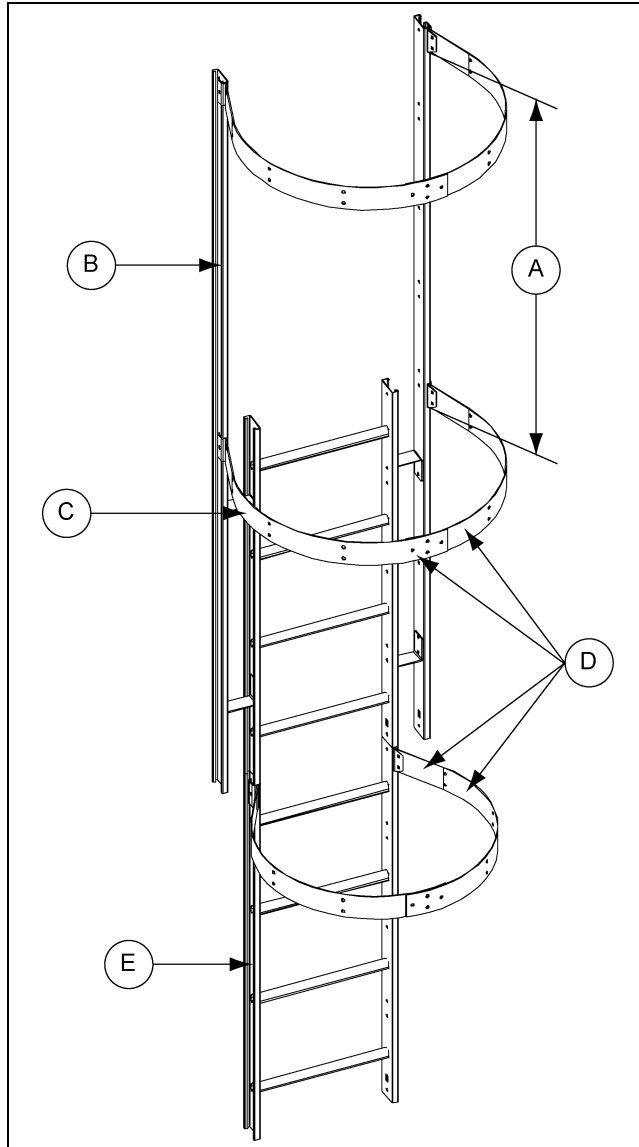

Figure 10C
To complete the safety cage hoop installation, some pre-assembly is required. Attach four (4) safety cage brackets to the extension rails and two (2) safety cage brackets to the second 4' ladder section as shown in Figure 10C. See cage hoop bracket detail on Page 53 for proper installation. Next, bolt each set of safety cage hoop halves together using $5/16"$ x $3/4"$ bolts with the head of the bolt to the inside of the safety cage. You may now bolt these assemblies to the safety cage brackets. Tighten bolts as you go.